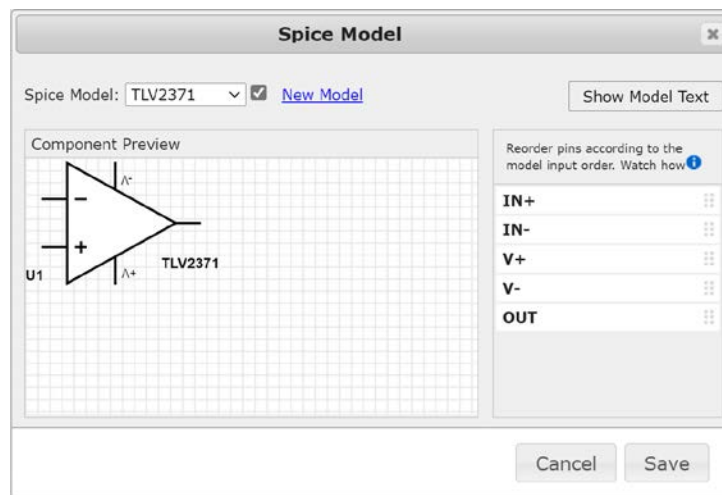

Fig. 5 Pin order of the schematic diagram for the Op-Amp TLV2371
- 2.2 Re-arrange by drag and drop the pin of the Op-Amp TLV2371 in the Spice Model window to have the order: IN+, IN-, V+, V- and OUT, as shown in Fig. 5.